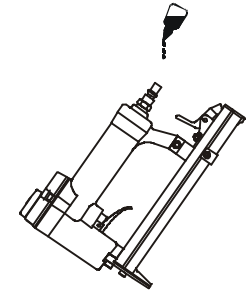

Figure 2
1. Determine if the tool needs oil and, if necessary, place two drops of oil in the AIR PLUG(53) as shown in Figure 2. If you are using an automatic in-line oiler, check and add oil if necessary.